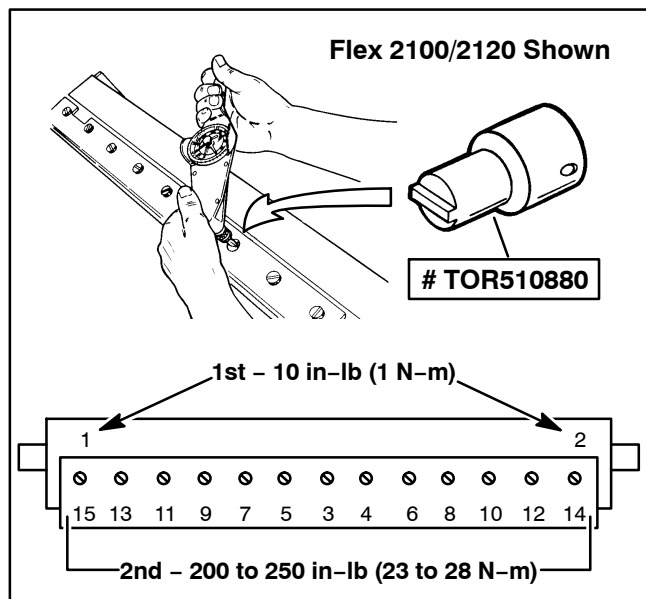

Figure 21
6. Working from the center of the bedknife toward each end (Fig. 21), tighten screws from **200 to 250 in-lb (23 to 28 N-m)**.